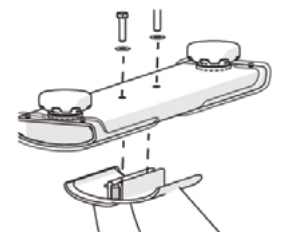

Figure 3
1. Stand the bike frame on its back end and place a towel or other cushioning under the bike frame (Figure 3) to protect the seat adjustment pop-pin from damage.